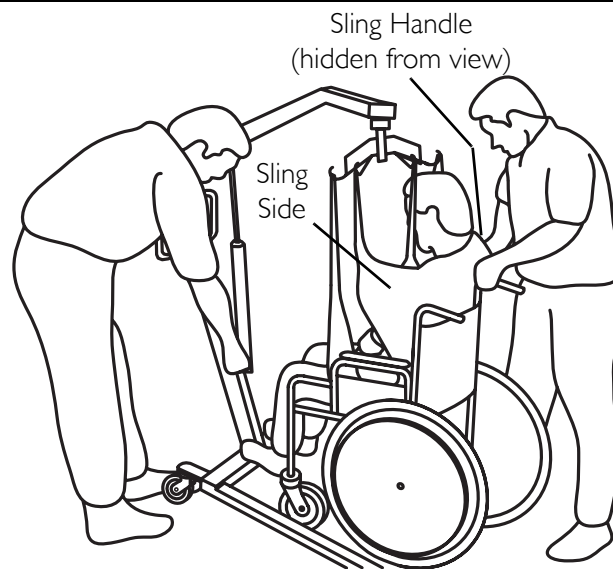

FIGURE 10.1 Transferring to a Wheelchair
NOTE: For this procedure, refer to FIGURE 10.1 on page 36.
3. Lock the rear wheels to further prevent movement of the chair (Detail "A" of FIGURE 10.1).
4. Position the patient over the seat with their back against the back of the chair (Detail "B" of FIGURE 10.1).
6. The assistant behind the chair pulls back on either the handle or sides of the sling to place the patient into the back of the chair. (Detail "C" of FIGURE 10.1).